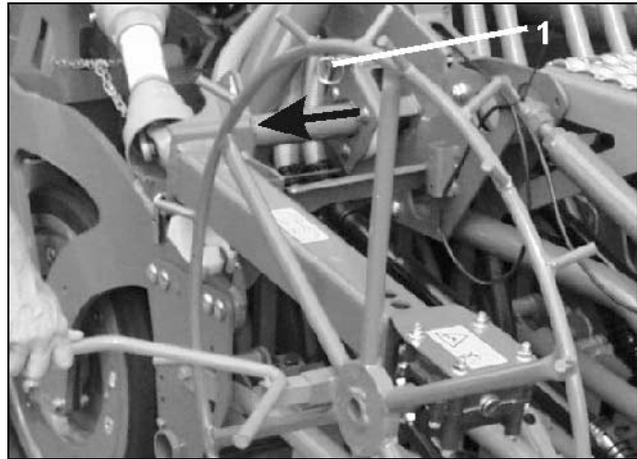

Fig. 67
- Slacken the lynch pin (Fig. 67/1)
- Pull the star wheel outwards according to Fig. 67.